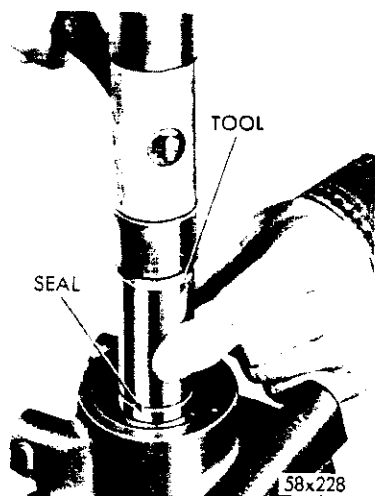
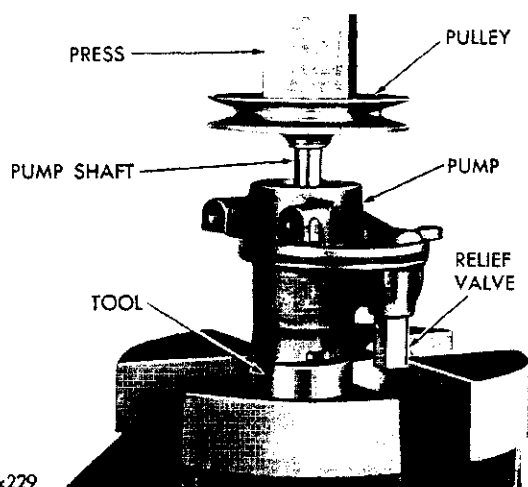

Fig. 62—Installing the Pump Oil Seal (Typical)
Fig. 63—Installing the Pump Pulley (Typical)
(3) Install the new oil seal with the lip of the seal toward the pump. Use Tool C-3782 to drive the seal flush with the insert (Fig. 62).
(4) Install the pressure relief valve and gasket assembly.
(5) Remove the front bracket. Support the pump body on the holding fixture, Tool C-3643, with the tool dowel pins in the pump bolt holes so that the pressure will be absorbed by the lower end of the pump shaft (Fig. 63).